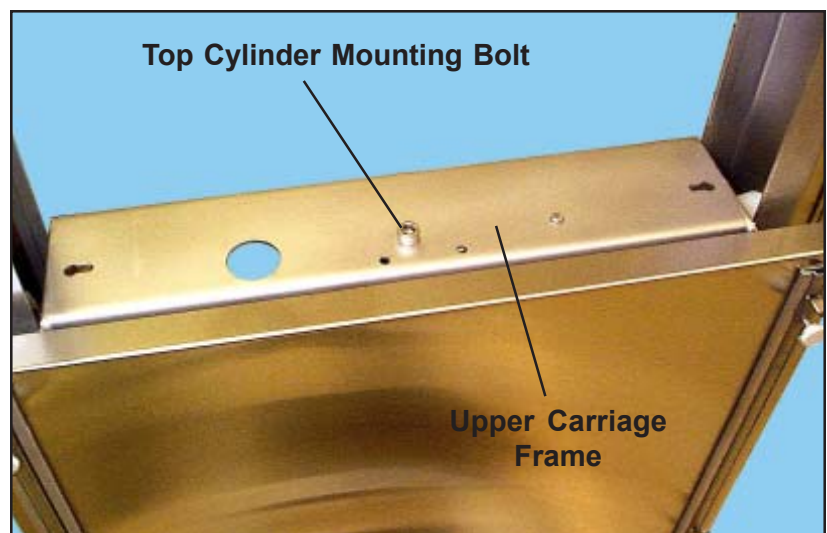

Figure 32. Top Cylinder Mounting Bolt
11. With a 5/16-in. hex key (Allen wrench) remove the top cylinder mounting bolt from the upper carriage frame (Figure 32).
12. Connect the top of the cylinder to the upper carriage frame with the top cylinder mounting bolt (Figure 32).